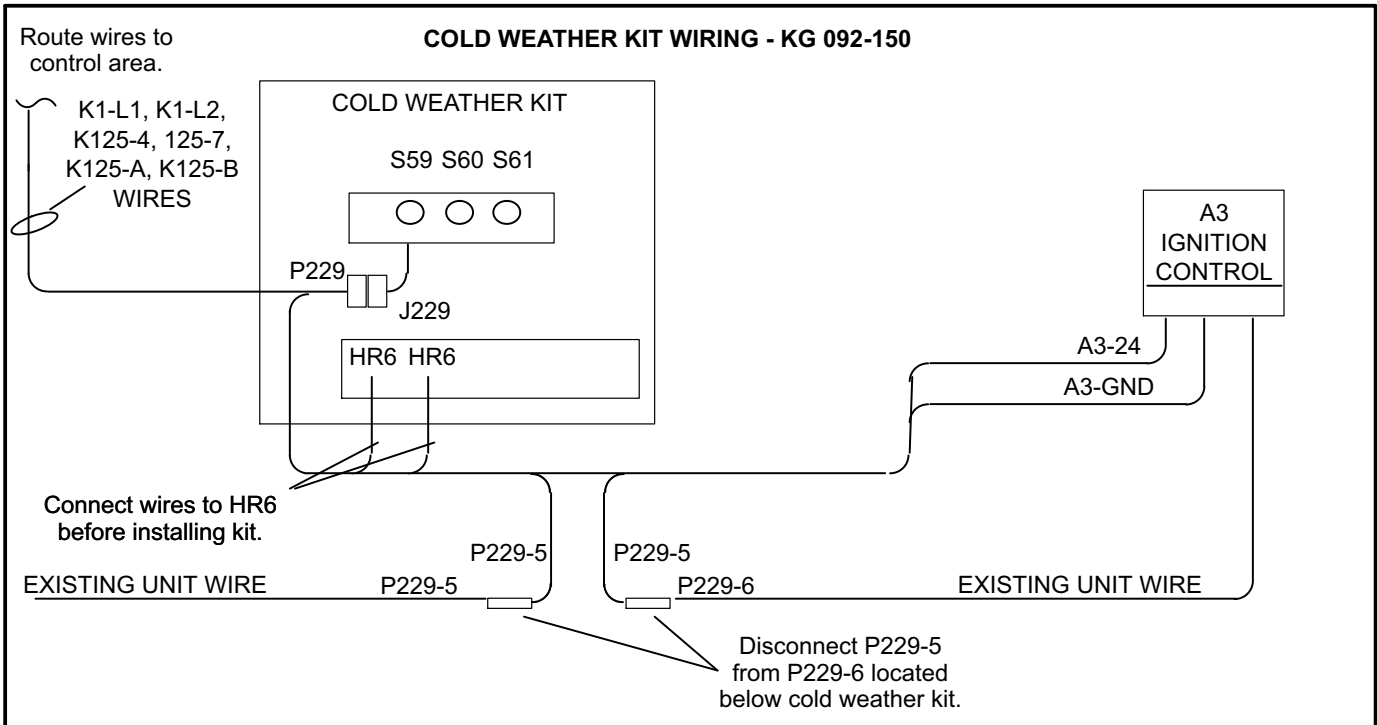

FIGURE 6
- 4- Remove cold weather kit cover and connect wires labeled HR6 to the cold weather assembly. See figure 6. Replace cold weather kit cover.
- 7- Make wire connections as shown in figure 6.